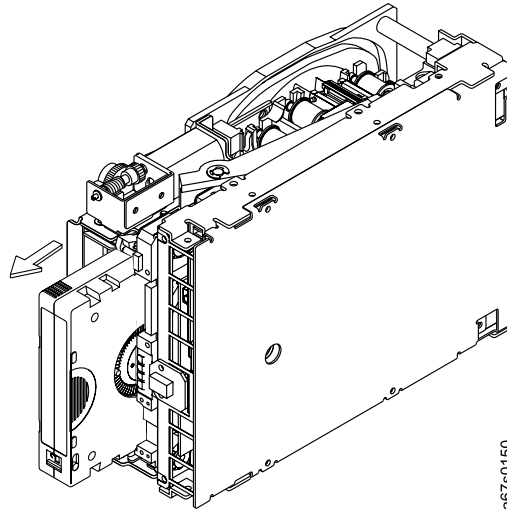

Figure 36. Rotating the loader motor gear until the cartridge ejects
14. Rotate the loader motor gear counterclockwise until you feel resistance and the cartridge rises and ejects (see Figure 36).